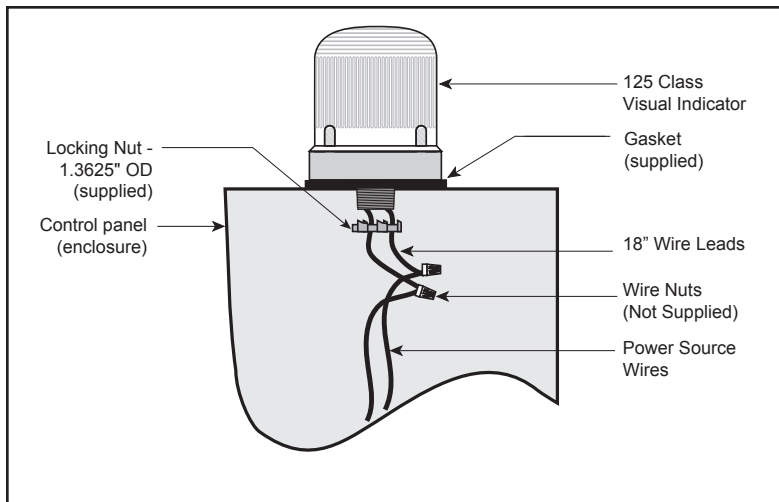

Figure 2. Panel Mounting
Panel Mounting (Figure 2)
3. Using wire nuts (not supplied), connect the signal's wire leads as shown in Figure 2. Polarity must be observed.
2. **Panel Mounted Modules:** Disconnect wiring and remove locking nut that secures the base to the panel (Figure 2).